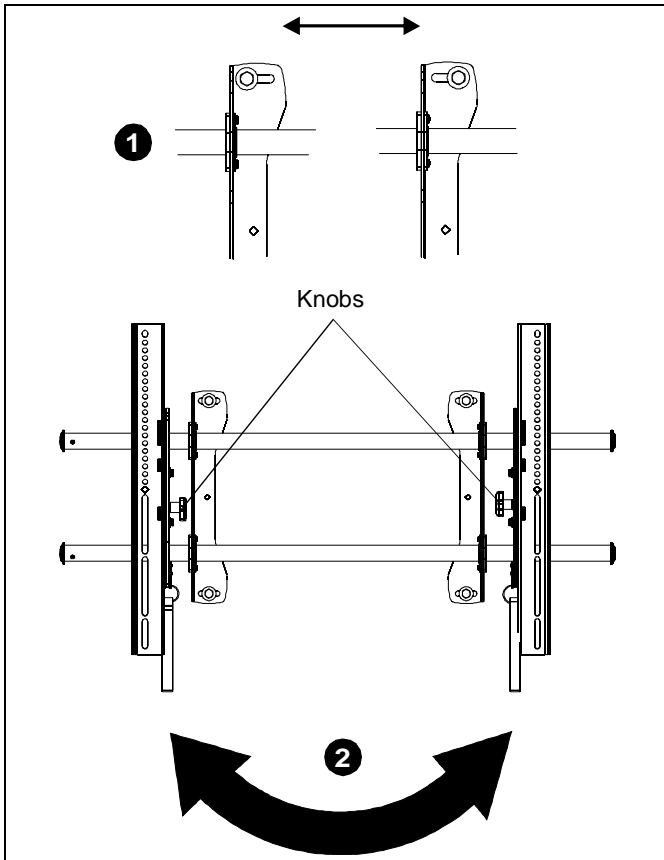

Figure 5
1. The wall brackets may be adjusted side to side at the point of attachment. (See Figure 5)
2. The location of the left and right interface brackets may be switched, with the knobs on the MSP-DCCLTA interface brackets facing the inside of the mount. (See Figure 5)